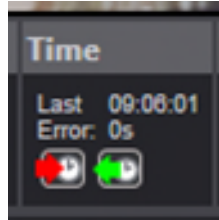

Figure 39: The Time section of the Intersection Status Window.
- The last time the local traffic signal controller clock was checked by Centrac. In the screenshot in Figure 39, this shows the time at last check was 9:06:01 AM.
- The time drift error – this checks the local traffic signal controller clock against the central server clock. In Figure 39, the traffic signal controller was accurate to the server time with 0 seconds of drift.